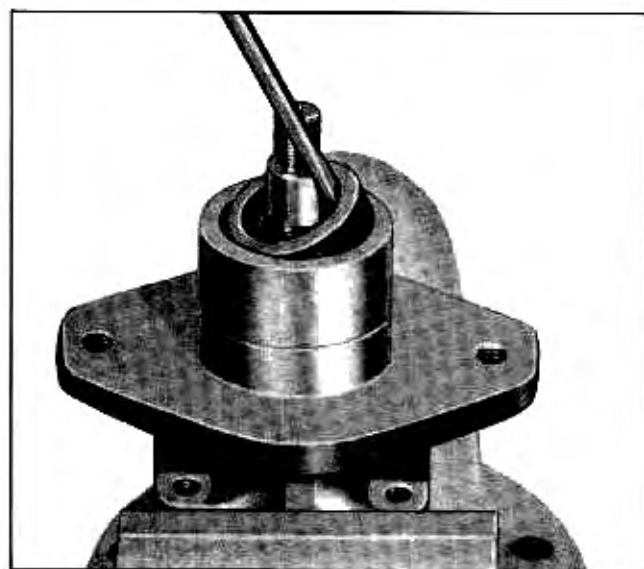

Fig. 9-77 Removing Oil Seal from Pump Body
13. Remove oil seal from body using a punch or screwdriver and punch a hole through oil seal and pry out of housing (Fig. 9-77).